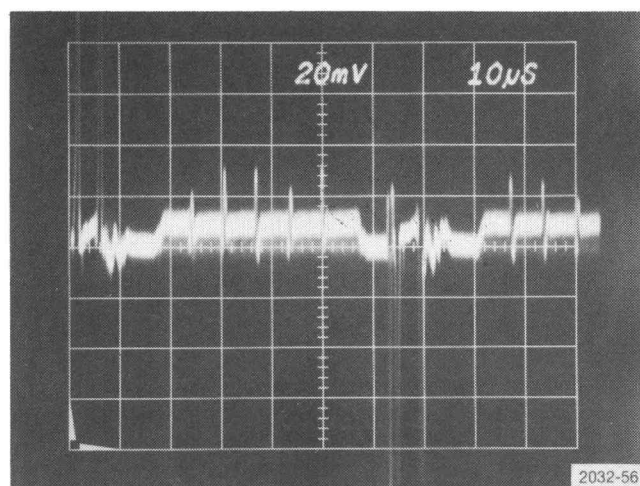
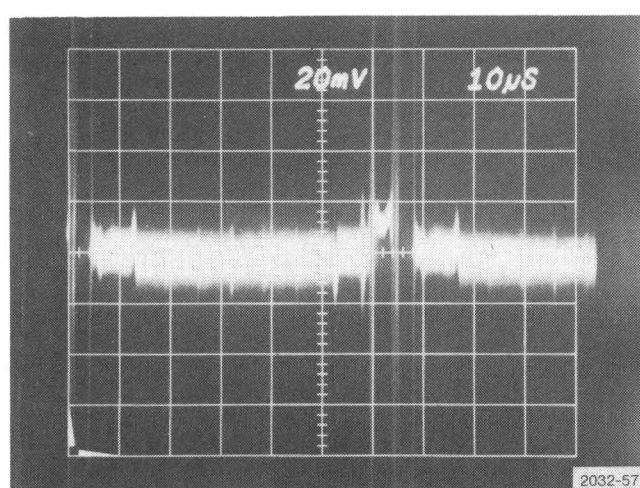

Fig. 5-15. 1420 — Differential Phase check.
Fig. 5-16. 1421, 1422 — Differential Phase check.
- CHECK—that tilt caused by changing luminance levels does not exceed 2% of the amplitude noted in step 13c (2% is equal to  $1^\circ$  of differential phase). See Fig. 5-15 or Fig. 5-16.